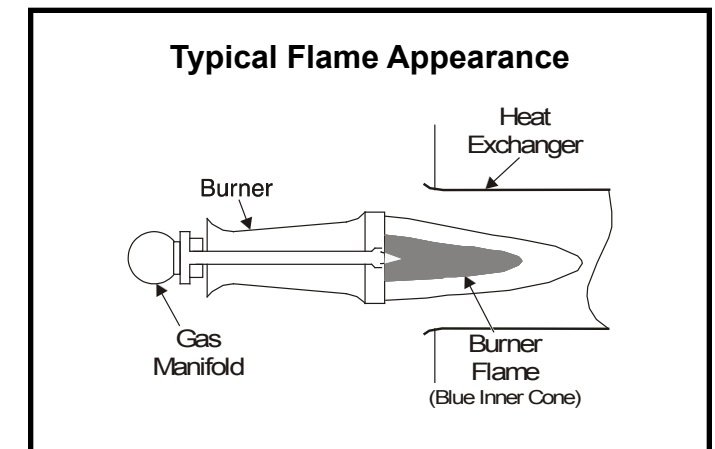

Figure 4
2. Cycle the burners on and off to make sure the ignition system operates correctly. Ignition and extinction should be smooth. The inner cone of the burner flames should be blue, and flame appearance should be as shown in Figure 4.